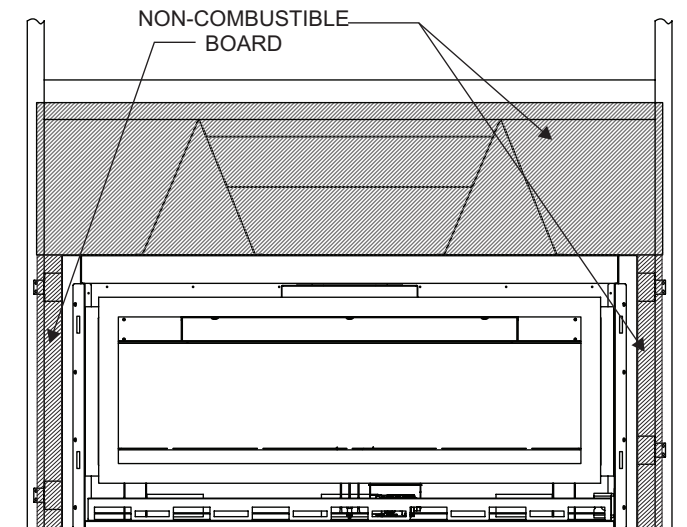

Figure 11
11. Install the non-combustible board across the top and sides of the fireplace. The board sits on the 1/2 in. surface on top of the fireplace and in front of the standoffs. **See Figure 11.**